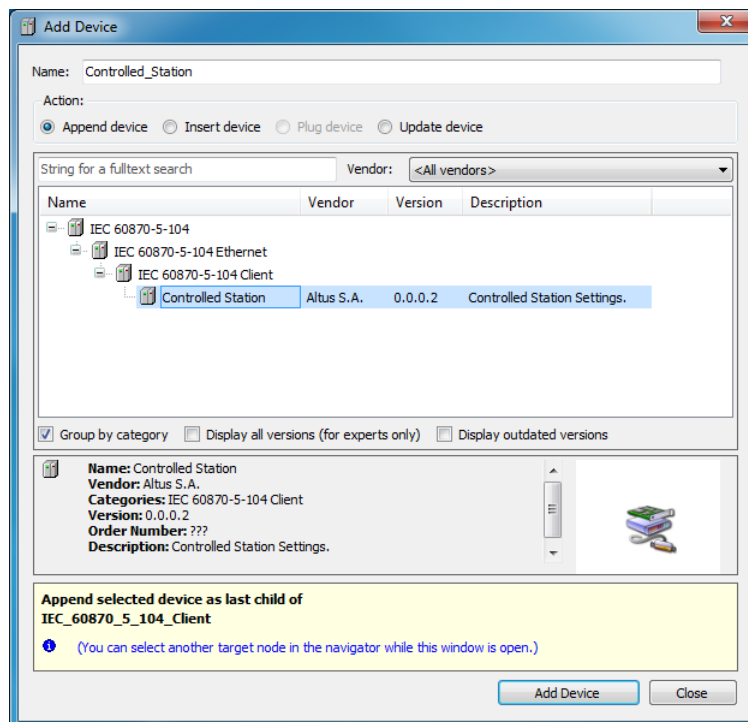

Figure 98: Insertion Screen of a Controlled Station Device below an IEC 60870-5-104 Client
3. Add and configure *Controlled Station* devices below the IEC 60870-5-104 Client instance, as shown in the figure 98. There is a maximum limit of 32 Controlled Stations under each instance of the IEC 60870-5-104 Client.